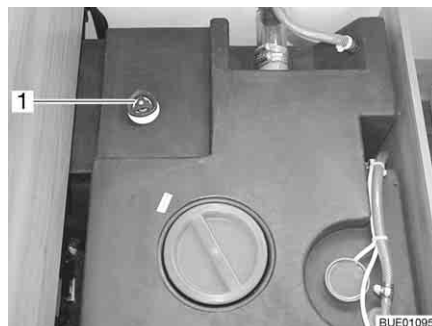

Fig. 197 Water tank with handle
- Turn the handle (Fig. 197,1) on the water tank in an anticlockwise direction as far as possible beyond the resistance to fully open the drainage opening.